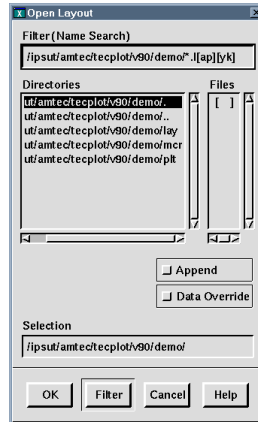

Figure 2-18. The Open Layout dialog in Motif.
2.2.6.1. Working with File Dialogs in Motif. Figure 2-18 shows a typical Motif file dialog: the Open Layout dialog. Near the bottom of the dialog is a text field labeled Selection. If you know the complete path of the file you want to open or save, you can simply type it into this field and press Enter or click OK. At the top of the dialog is a text field labeled Filter (Name Search). You can use this field to specify a file name filter. Using a file name filter causes Tecplot to display all sub-directories of the current directory in the Directories scrolled list, as well as all files in the current directory ending with the extension **.lay** in the Files scrolled list. Dialogs for other file types have different default filters—for example, the data file dialogs have a filter that displays files with the extension **.plt**. The filter determines the initial path displayed in the Selection text field. To change the default file extensions, see Section 30.1.4., “Specifying Default File Name Extensions.”